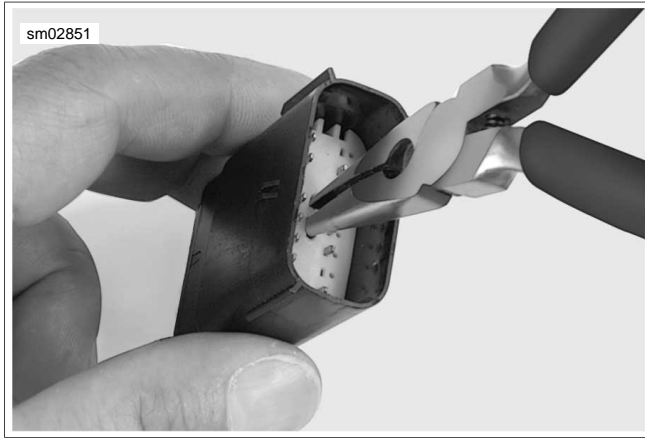

Figure A-27. Pull Up Secondary Lock (Pin Housing)
- b. **Pin Housing:** See Figure A-27. Use needle nose pliers to engage the D-holes in the center of the secondary lock.